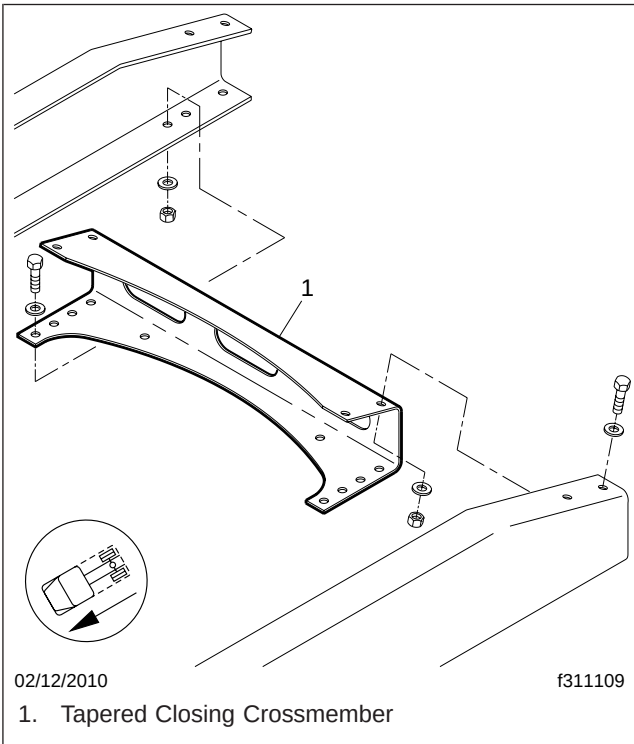

Fig. 9, One-Piece Rear-Closing Crossmember
5. Remove the fasteners that attach the crossmember to the top and bottom flange of the frame rails. See Fig. 9.